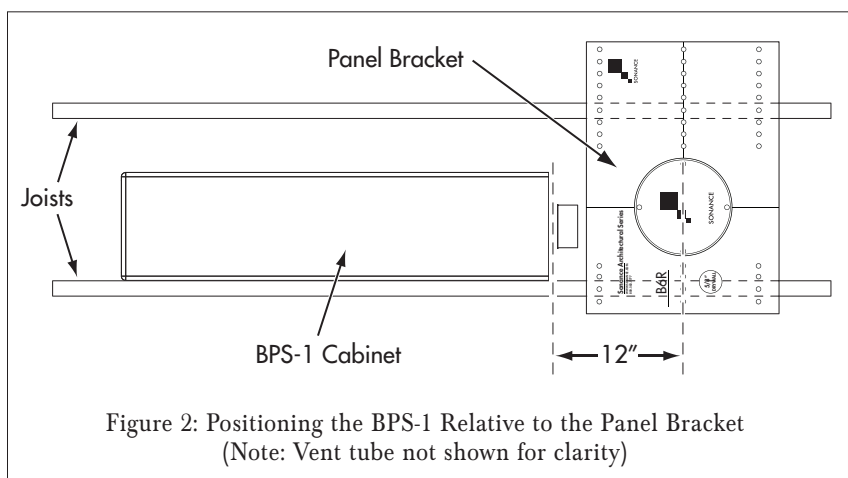

Figure 2: Positioning the BPS-1 Relative to the Panel Bracket
IMPORTANT: THE CENTER OF PANEL BRACKET'S SPEAKER OPENING SHOULD BE APPROXIMATELY 12" FROM VENT TUBE END OF BPS-1 ENCLOSURE (SEE FIGURE 2). MAINTAINING THE VENT TUBE'S PROPER LENGTH IS INTEGRAL TO THE BPS-1'S ACOUSTIC PERFORMANCE. LENGTHENING OR SHORTENING THE VENT TUBE TO FIT A DIFFERENT DISTANCE WILL ADVERSELY AFFECT THE BPS-1'S PERFORMANCE.
- Determine the location for the Architectural Series Panel Bracket and install it first (its location may be influenced by the locations of other AS speakers in the room). Then establish the location for the BPS-1 cabinet relative to the Panel Bracket. The vent end of the BPS-1 cabinet should be located 12" from the center of the Panel Bracket's speaker opening (see *Figure 2*, on page 2).